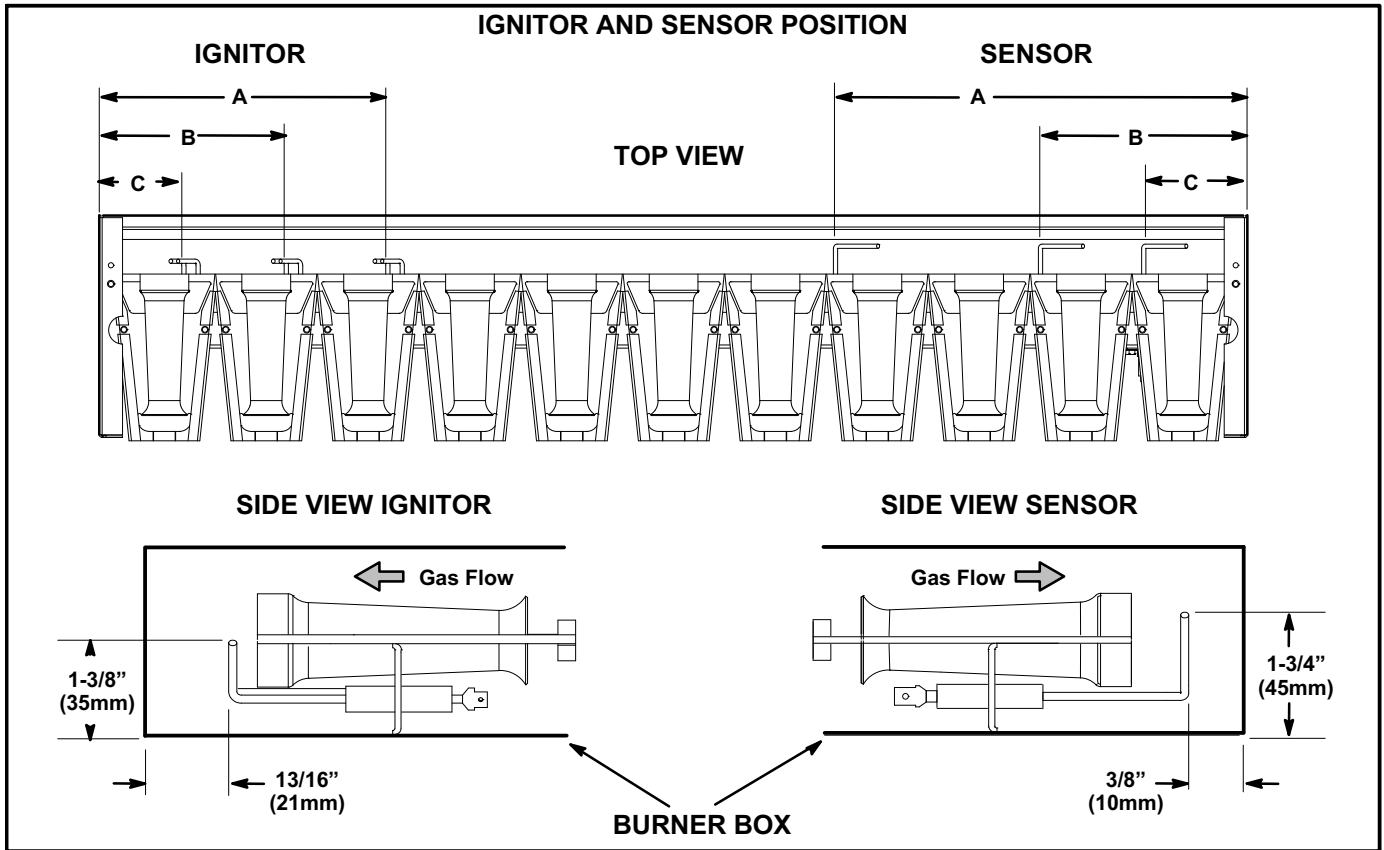

FIGURE 28
- 5- Check the alignment of the ignitor and the sensor as shown in figure 28 and table 19.